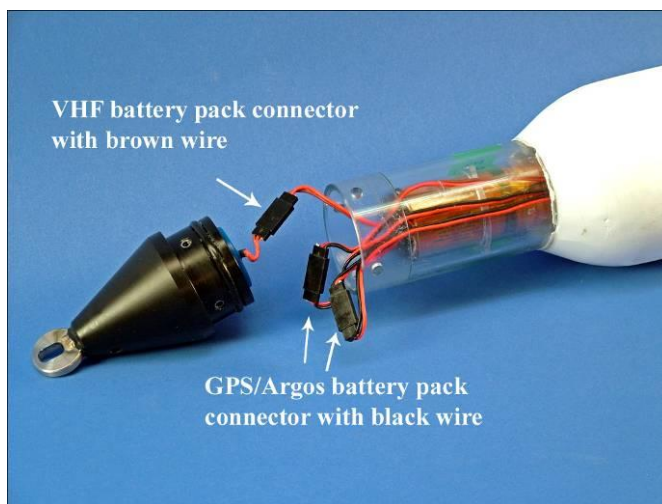

Fig. 2 Battery packs ready to be disconnected from TMT-464-2 and TMT-464-3
2. There are two battery systems with connectors. One battery pack with two connectors that have black ground (-) wires that power the GPS-ARGOS unit, and one battery pack with a connector that has a brown ground (-) wire that powers the VHF transmitter. Disconnect the VHF battery pack, and then disconnect the 2 black connectors from the GPS-ARGOS battery pack. **(Fig. 2)** The connectors for both the GPS-ARGOS and VHF battery packs are keyed differently so that they will only match the corresponding connectors.